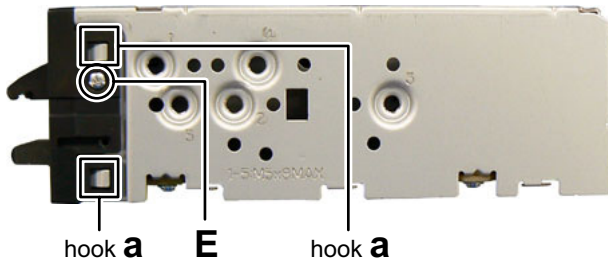

Fig.2
3.1.2 Removing the Front chassis (See Fig.2)